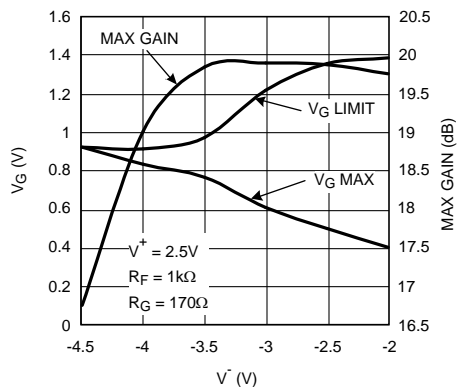
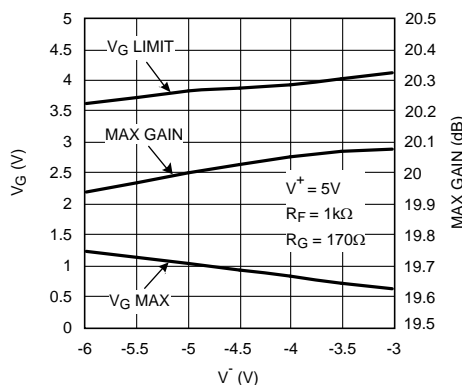

Figure 12. V_{G_MAX} , V_{G_LIMIT} , & Max-gain vs. V^- ($V^+ = 2.5V$)
Figure 13. V_{G_MAX} , V_{G_LIMIT} , & Max-gain vs. V^- ($V^+ = 5V$)
- a) V_G range constricts. Referring to Figure 12, note that V_{G_MAX} (V_G voltage required to get maximum gain) is $0.5V$ ($V_S = \pm 2.5V$) compared to $1.0V$ for $V_S = \pm 5V$. At the same time, gain cut-off (V_{G_MIN}) would shift to $-0.5V$ from $-1V$ with $V_S = \pm 5V$.
- b) V_{G_LIMIT} (maximum permissible voltage on V_G) is reduced. This is due to limitations within the device arising from transistor headroom. Beyond this limit, device performance will be affected (non-destructive). Referring to Figure 12, note that with $V^+ = 2.5V$, and $V^- = -4V$, V_{G_LIMIT} is approaching V_{G_MAX} and already "Max gain" is reduced by 1dB. This means that operating under these conditions has reduced the maximum permissible voltage on V_G to a level below what is needed to get Max gain. If supply voltages
are asymmetrical, reference Figure 12 and Figure 13 plots to make sure the region of operation is not overly restricted by the "pinching" of V_{G_LIMIT} , and V_{G_MAX} curves.
- c) "Max_gain" reduces. There is an intrinsic reduction in max gain when the total supply voltage is reduced (see Typical Performance Characteristics plots for Gain vs. V_G ($V_S = \pm 2.5V$). In addition, there is the more drastic mechanism described in "b" above and shown in Figure 12.
Similar plots for $V^+ = 5V$ operation are shown in Figure 13 for comparison and reference.